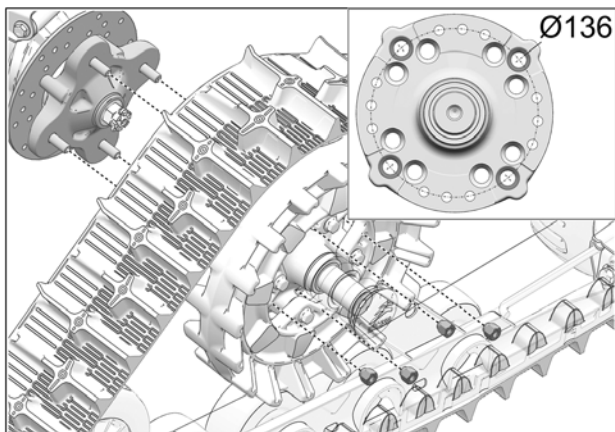

Fig. 9
9. Secure undercarriage to rear hub using the vehicle's own lug nuts. Use bolt circle  $\text{\O}136$  mm. See Fig. 9